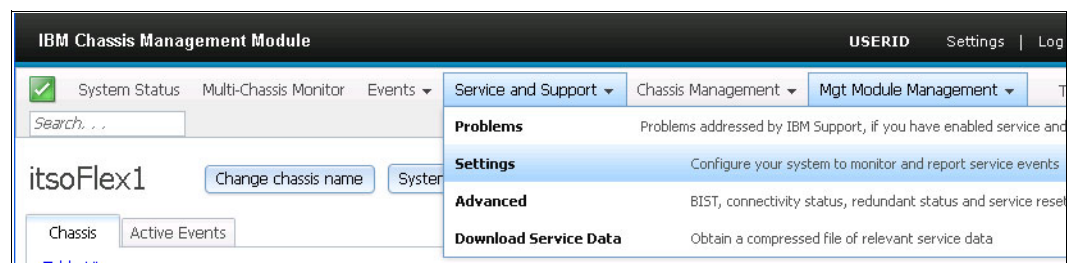

Figure 7-21 Selecting the CMM Service and Support Settings option
1. Click **Service and Support** → **Settings** from the menu bar option, as shown in Figure 7-21.